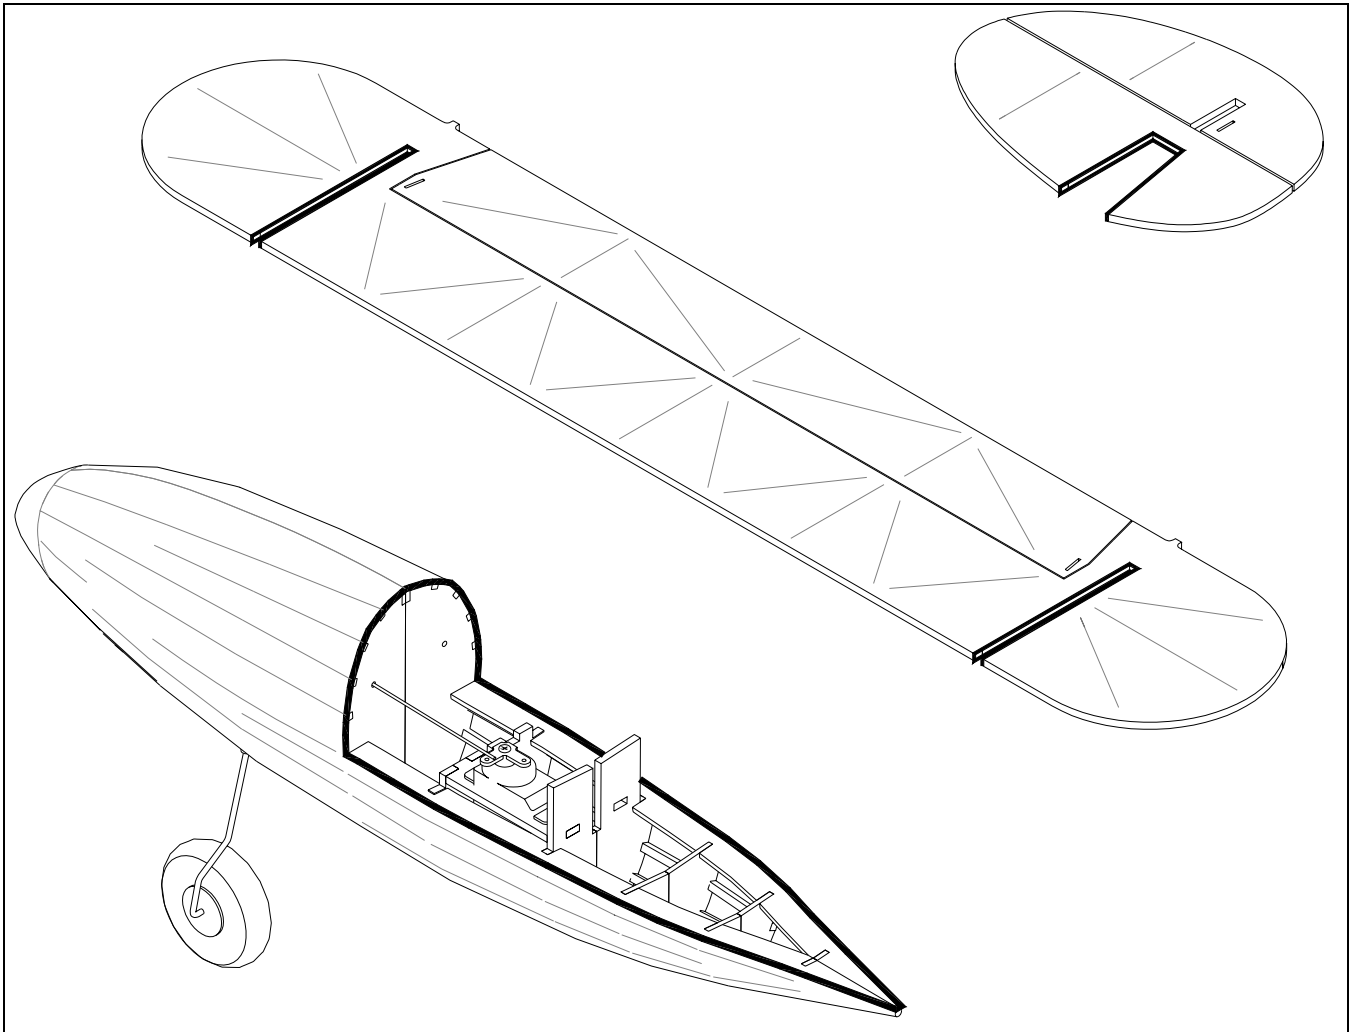

Figure 24
- ❑ Cover the entire fuselage except for the section illustrated in Figure 24 and shown by bold lines. This area interfaces the wing.
- ❑ Cover the entire horizontal stabilizer/elevator and vertical stabilizer/rudder except for the section illustrated in Figure 24 and shown by bold lines. These areas interface the boom. **DO NOT** be concerned about hinging the control surfaces at this point.